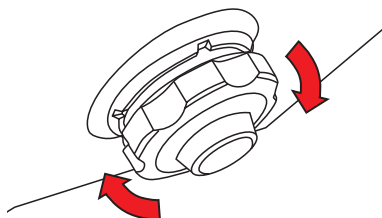

Fig.3
- Remove the device from the transport bag (M),
- The only numbered connections (F1) simplify the alignment of the ventral band (G),
- check that the valve (I) is closed (screwed clockwise) - fig. 3,